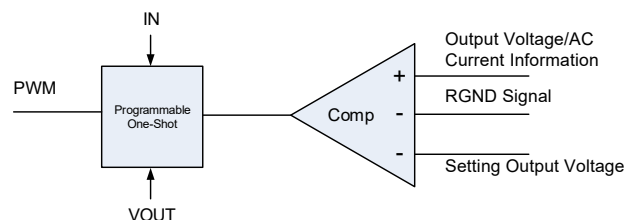

Figure 2. Simplified Control Schematic of AOZ23695R
The simplified control schematic is shown in Figure 2. The high-side switch on-time is determined solely by a one-shot whose pulse width is inversely proportional to input voltage (IN). The one-shot is triggered when the internal setting output voltage is higher than the combined information of output voltage and the AC current information of inductor and load line signal, which is processed and obtained through the sensed low-side MOSFET current once it turns on. The added AC current information can help the stability of constant-on time control even with pure ceramic output capacitors, which have very low ESR. The AC current information has no DC offset, which does not cause offset with output load change, which is fundamentally different from other  $V^2$  constant-on time control schemes.